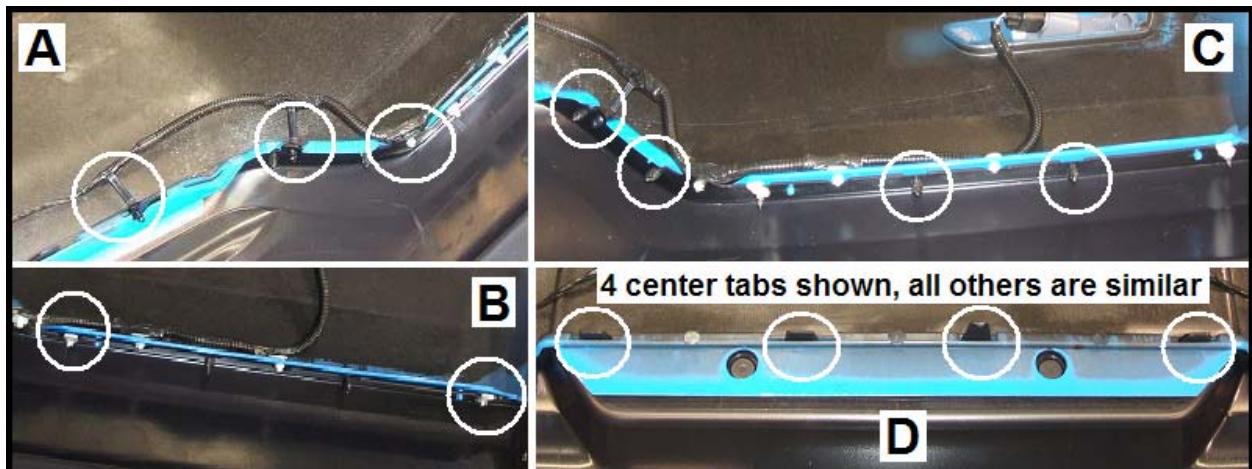

Figure 9
- A) Using a forked push pin tool, disengage six (6) wire harness retainers (three per side) which are attached to the black lower valance.
- B) Using a Phillips screw driver, remove four (4) screws (two per side) which attach the valance to the rear fascia sides.
- C) Using a forked push pin tool, remove eight (8) push pins (four per side) which attach the valance to the rear fascia sides. The push pins are a two (2) part push pin. Remove the center button first to release the barbs and then remove the push pin body.
- D) Disengage the twelve (12) retainer tabs and separate the lower valance from the rear fascia. Refer to Figure 9 for Steps A) – D).
21. Reinstall four (4) screws (two per side) attaching the Lower Valance to the rear fascia. Refer back to Figure 9-B.
22. Reinstall eight (8) push pins (four per side) attaching the Lower Valance to the rear fascia. Refer back to Figure 9-C. Insert the push pin body first and then the center button.
23. Insert the six (6) wire harness retainers (three per side) into the holes on the Lower Valance. Refer back to Figure 9-A.